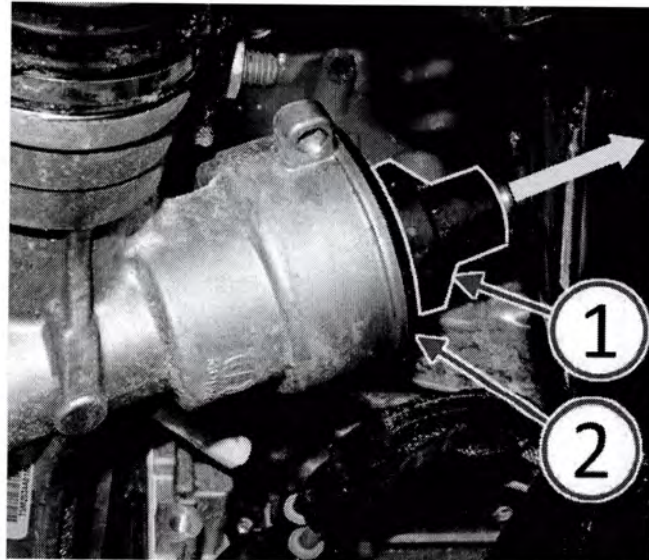

Fig. 2 Reposition Dust Cover
4. By hand, pull the dust cover (1) away from EPS gear pinion cover (2) and slide the dust cover along the pinion shaft until the top edge of the pinion cover is visible (Fig. 2).